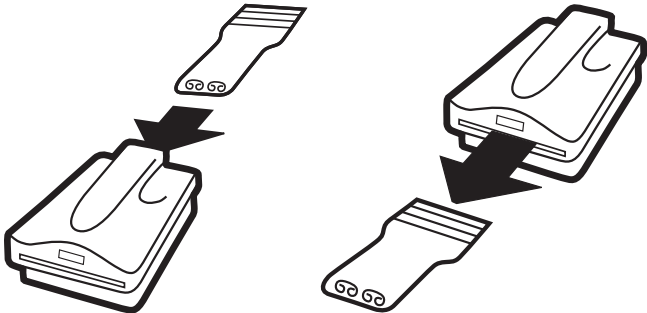

Figure 5
3. Insert the tool from the back of the unit and pull the tool all the way out from the front (see Figure 5).